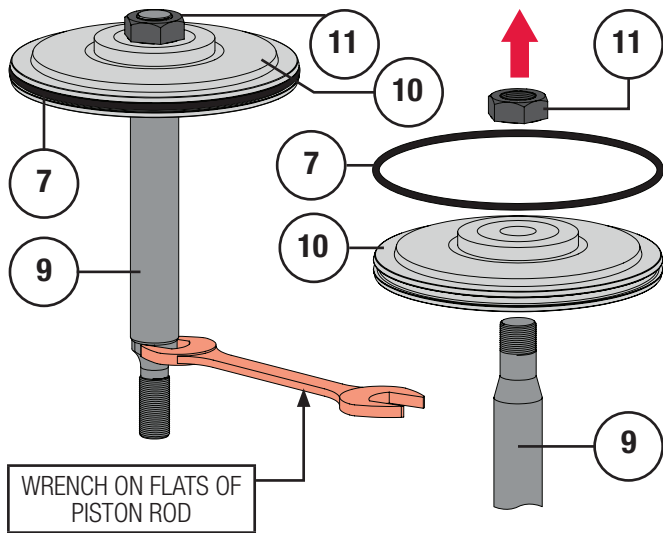

Figure 14 Piston Assembly Separation
- A Place a wrench on the flats of the piston rod (Key 9) and remove the jam nut (Key 11) as shown in Figure 14 (or double nut the end of the piston rod to keep the rod from twisting).